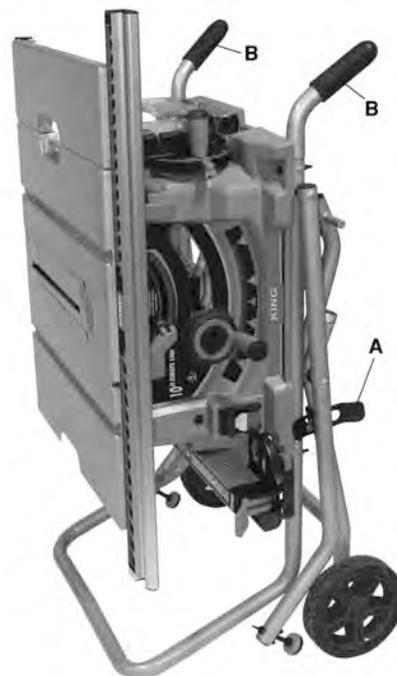

FIGURE 7
Note: Before folding stand, remove all workpieces from the table. Remove and securely store all loose accessories such as the miter gauge, rip fence, blade guard, anti-kickback fingers and push stick. Lower saw blade below the table top. Fig.7 shows the stand in its folded position with all accessories in their storage areas.
1. Push the stand release latch (A) Fig.7 and at the same time, grasp the stand handles (B) and lift them up and away from the saw body. Push the jobsite saw until the release latch clicks and locks the stand. The stand and saw assembly can now be pivoted and rolled away.
1. Push the stand release latch (A) Fig.7 and at the same time, grasp the stand handles (B) and pull them down towards you. Push down until the release latch clicks and locks the stand. The stand and saw assembly can now be used for cuts.